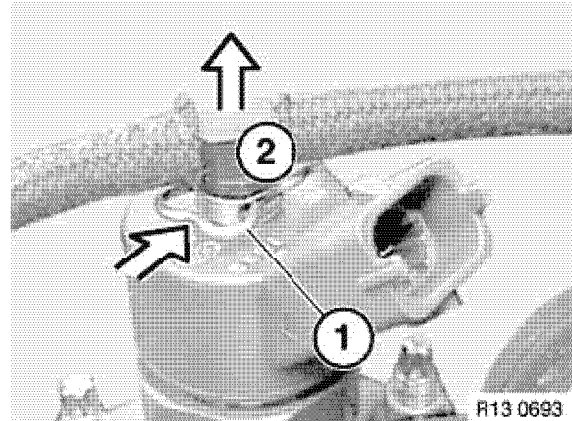

Figure 6-40
4. Push clip (1, **Figure 6-40**) in direction of arrow and remove fitting (2, **Figure 6-40**) from fuel injector top. Repeat with all fuel injectors.